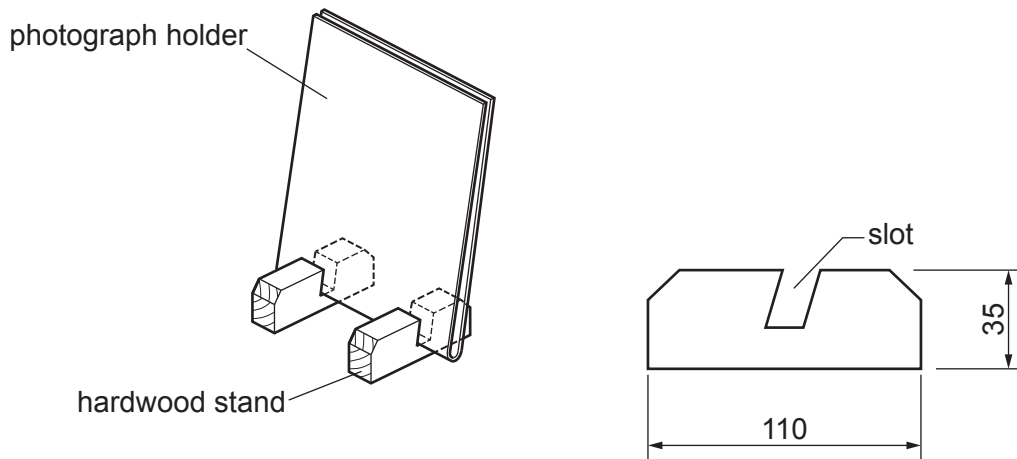

Fig. 2.1
- 2 Fig. 2.1 shows a photograph holder and two hardwood stands.